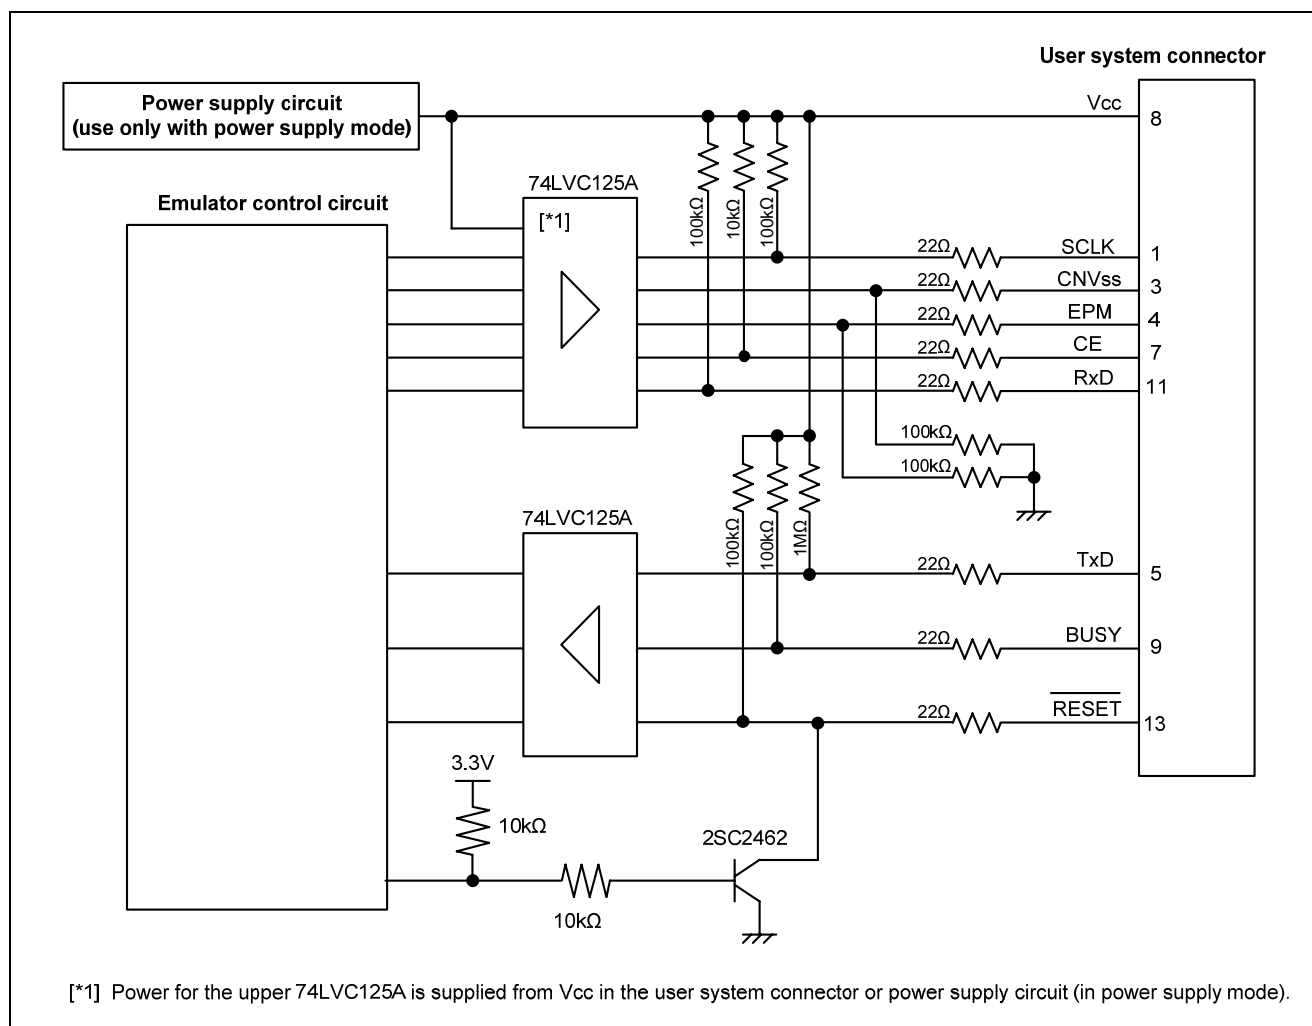

Figure 5.8 Interface Circuit Inside the E8 Emulator (For Reference)
1. Pins P64, P65, P66 and P67 are used exclusively by the E8 emulator. Connect the E8 emulator to the MCU pins. Connect pins P65, P66 and P67 to the E8 emulator after pulling up the MCU pins. Pull up or down on P64 according to the MCU pin state after disconnecting the E8 emulator. P64 may be in a Hiz state while the E8 emulator is active. Therefore, set the pin resistance value so the voltage cannot be at the midpoint potential, depending on the voltage dividing of the resistance inside the E8 emulator (Figure 5.8).
Pull up or down on P50 and P55 according to the MCU pin state after disconnecting the E8 emulator. P50 and P55 may be in a Hiz state while the E8 emulator is active. Therefore, set the pin resistance value so the voltage cannot be at the midpoint potential, depending on the voltage dividing of the resistance inside the E8 emulator (Figure 5.8).
9. Figure 5.8 shows the interface circuit in the E8 emulator. Use this figure as a reference when determining the pull-up resistance value.